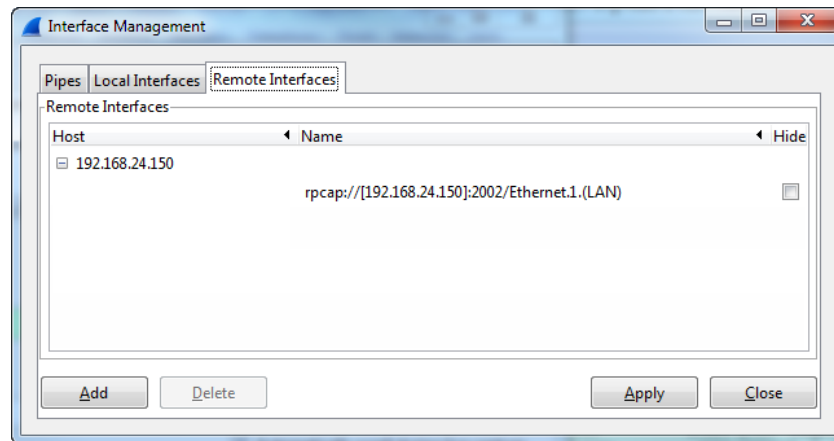

Figure 163: Added new interface to Wireshark.
7. If the connection to the device was established successfully, the **Remote Interfaces** list will be updated with information about all capture ports available on the device as shown in Figure 163.